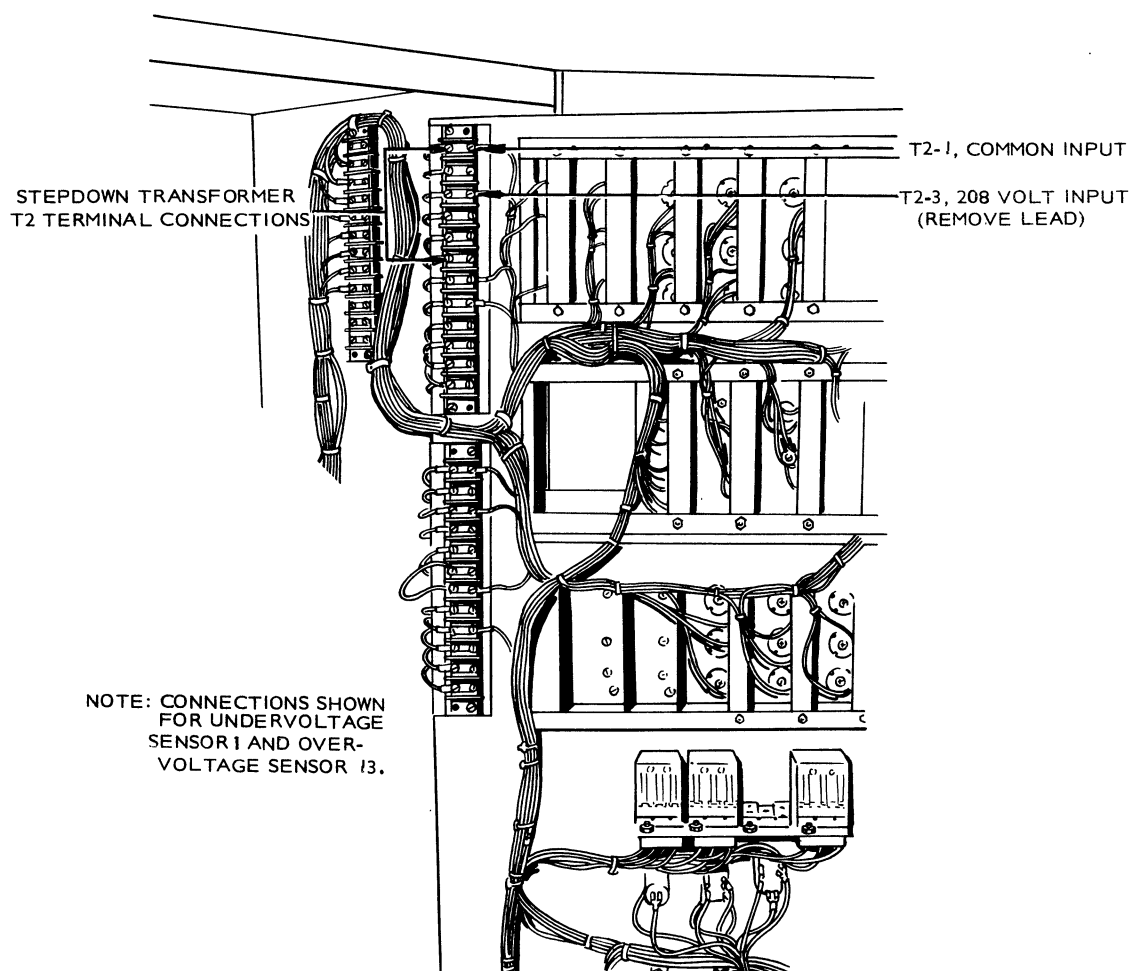

FIGURE 26. VOLTAGE SENSOR TRANSFORMER CONNECTIONS
11. Remove the plastic cover over the stepdown transformer terminals and remove the hot wire lead from the stepdown transformer's right side terminal of the terminal strip for the respective sensor. For example, if the nominal voltage is 208 volts, remove the wire lead from T2-3 for sensor 1. Do *not* remove the common (com) lead. See Figure 26.
lead from the stepdown transformer's right side terminal of the terminal strip for the respective sensor. For example, if the nominal voltage is 208 volts, remove the wire lead from T2-3 for sensor 13. Do *not* remove the common (com) lead. See Figure 26.